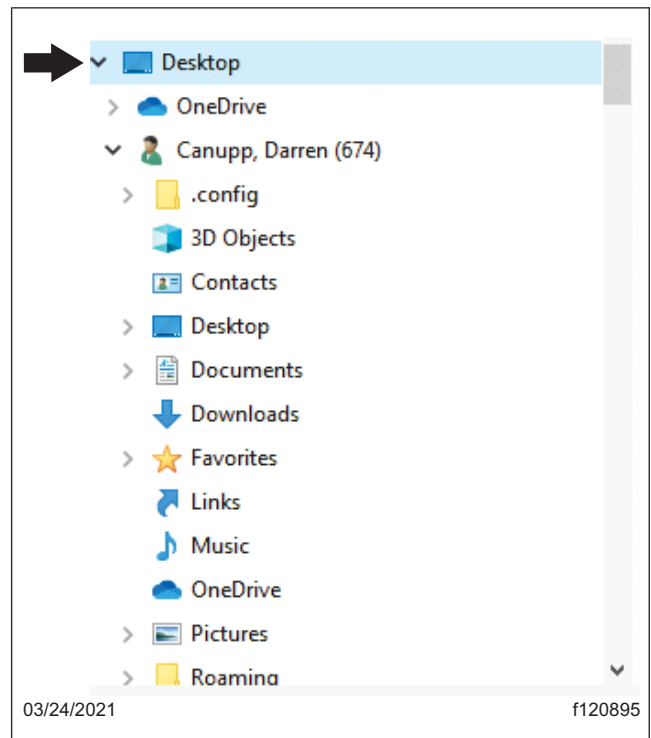

Fig. 5, Saving the File to the Desktop
8. A window will open, asking where to save the file; select 'Desktop,' as shown in **Fig. 5**.